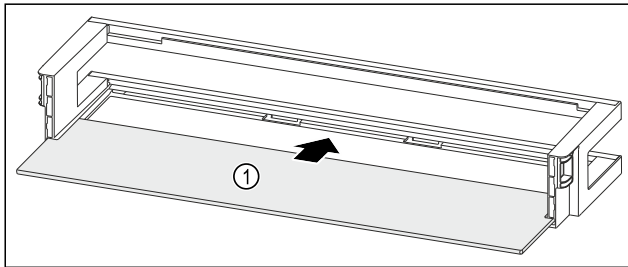

Fig. 244 Door rack with shelf
- ▶ Push the shelf Fig. 244 (1) into the side recesses.